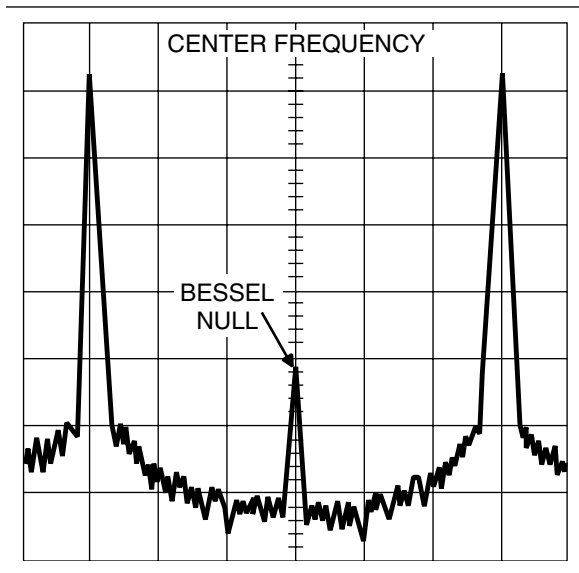

Figure 3-9. Typical Spectrum Analyzer Display of Bessel Null on FM Waveform
6. On the 691XXB, use the cursor control key to place the cursor under the last 0 in the sensitivity setting (0.240 MHz/V). While observing the first Bessel null (Figure 3-9), increase/decrease the sensitivity setting with the cursor control key to reduce the carrier as low as possible.
5. On the 691XXB, use the cursor control key to place the cursor under the last 0 in the sensitivity setting (0.240 MHz/V). While observing the first Bessel null (Figure 3-9), increase/decrease the sensitivity setting with the cursor control key to reduce the carrier as low as possible.